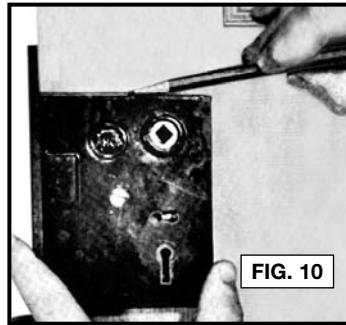

FIG. 10
3. Make a mark on the side of the door at the top of the lock box (Fig. 10). Transfer this mark to the front edge of the door.